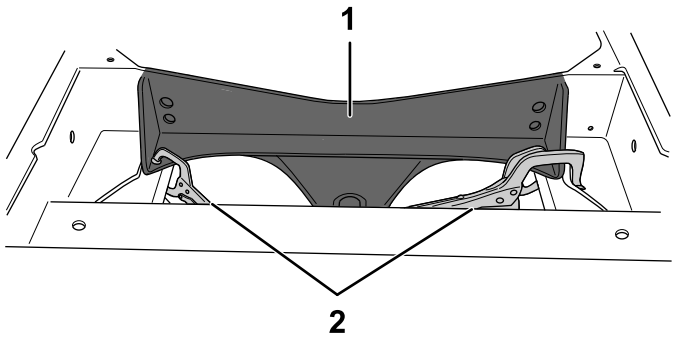

Figure 12
1. Put the replacement axle support into position. Using clamps and metal support plates, secure it as shown in Figure 12. Ensure that the axle support is flush to the existing frame and that there aren't any gaps.